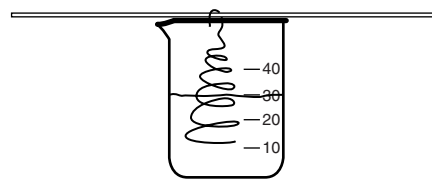

Figure 1.
4. Cut a 25-cm piece of copper wire and loosely coil it into the shape shown in Figure 1.
6. Use a wooden splint to suspend the copper wire in the silver nitrate solution, as shown in Figure 1. The copper wire should not be touching the bottom or sides of the beaker.